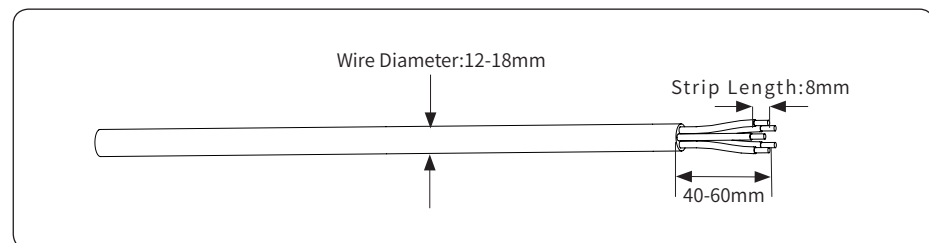

Figure 4-22
1) According to the table above, select an appropriate AC cable, peel off the insulation sleeve of AC cable for 40~60mm, and peel off the sleeve in the conductor core of 3L/PE/N wires for 8mm, as shown in Figure 4-22: